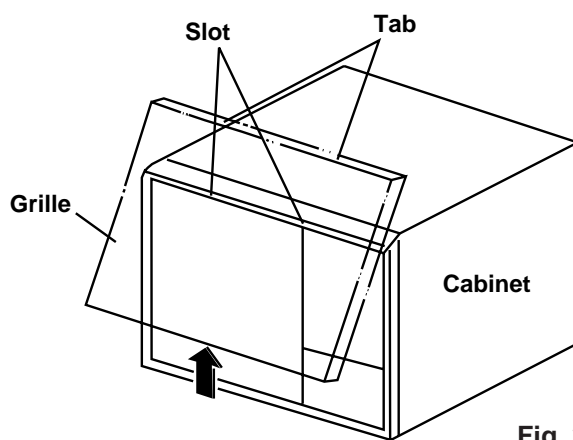

Fig. 3
- (5) After confirming that the ventilator lever has been disengaged from the grille vent, slide the grille upward to free the two tabs at the top of the grille from the rectangular holes in the top of the cabinet. (Fig. 3 and 4)